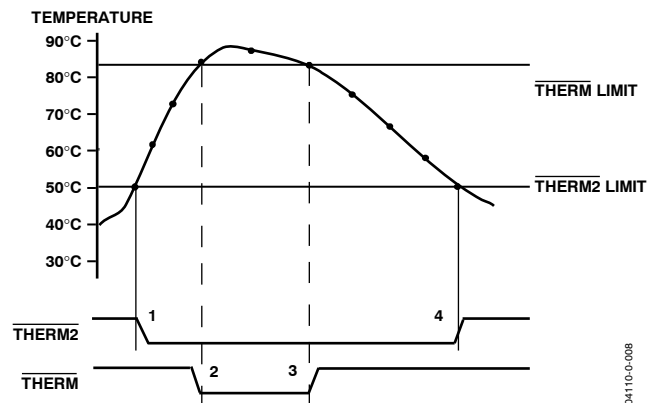

Figure 22. Operation of the  $\overline{\text{THERM}}$  and  $\overline{\text{THERM2}}$  Interrupts
Figure 22 shows how  $\overline{\text{THERM}}$  and  $\overline{\text{THERM2}}$  might operate together to implement two methods of cooling the system. In this example, the  $\overline{\text{THERM2}}$  limits are set lower than the  $\overline{\text{THERM}}$  limits. The  $\overline{\text{THERM2}}$  output could be used to turn on a fan. If the temperature continues to rise and exceeds the  $\overline{\text{THERM}}$  limits, the  $\overline{\text{THERM}}$  output could provide additional cooling by throttling the CPU.
3. The  $\overline{\text{THERM}}$  output deasserts (goes high) when the temperature falls to  $\overline{\text{THERM}}$  limit minus hysteresis. No hysteresis value is shown in Figure 22.